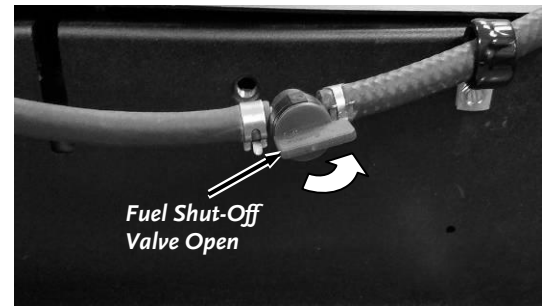

Figure 21
3. Open the Fuel Shut-Off Valve on the left-hand side of the Mower (**Figure 21**).
Note: Close the Fuel Shut-Off Valve when transporting or storing the DR TOW-BEHIND FIELD and BRUSH MOWER (**Figure 21**).